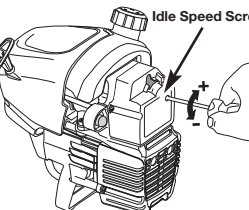

Fig. 40
The idle speed of the engine is adjustable through the air filter/muffler cover (Fig. 40).
2. Release the throttle trigger and let the engine idle. If the engine stops, insert a small phillips screwdriver into the hole in the air filter/muffler cover (Fig. 40). Turn the idle speed screw in, clockwise, 1/8 of a turn at a time (as needed) until the engine idles smoothly.